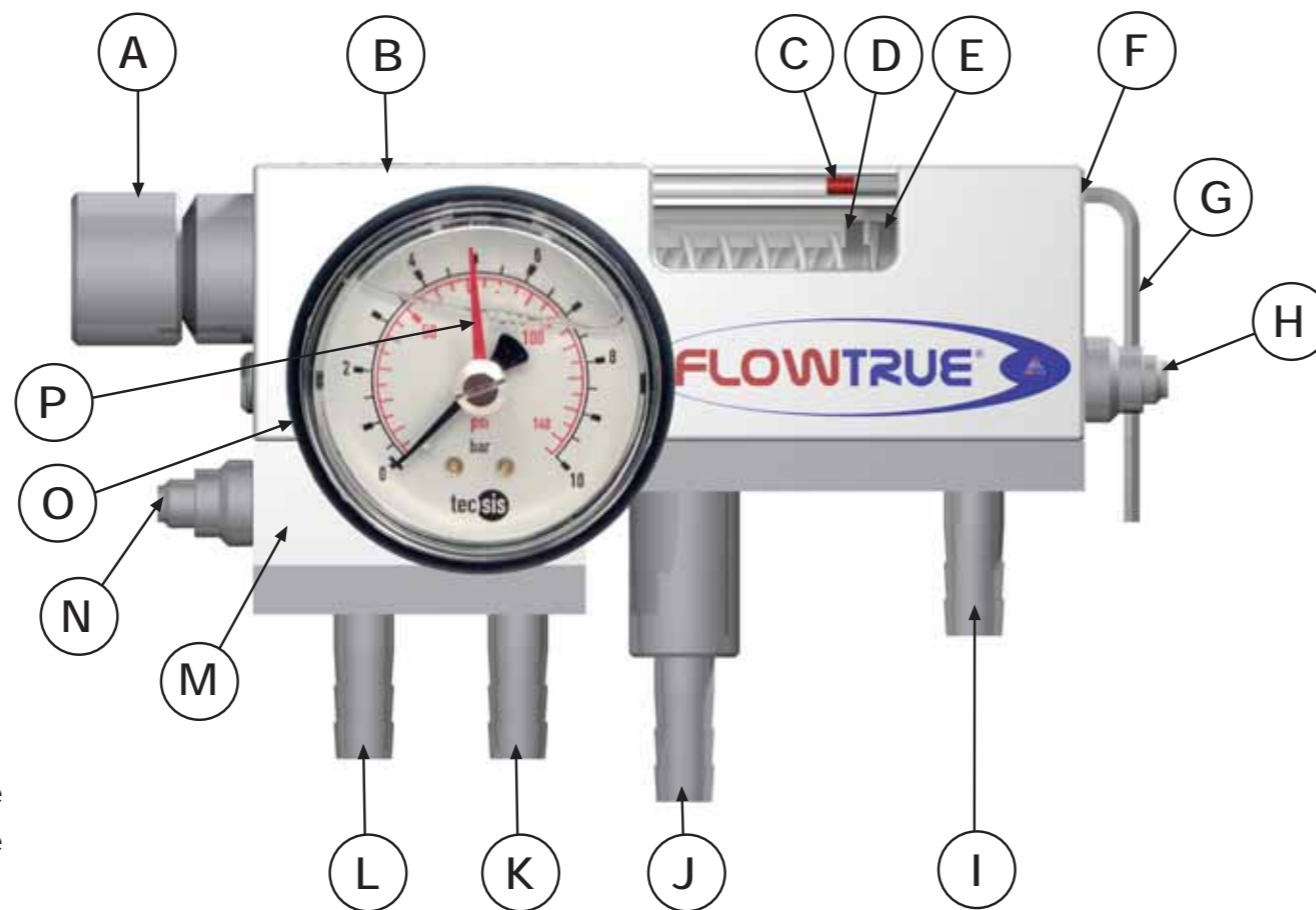

FIG.1 FLOWTRUE® Features
- 3) Connect the hoses from the plant water supply ball valve to the FLOWTRUE® (I) and from the FLOWTRUE® connection (J) to the mechanical seal.
- 4) If installing Model FTPB - XX - YYY for use with a double mechanical seal (Figure 1 & 3), there is both a backpressure valve (M) and a pressure gauge (O). The hose from the mechanical seal leading back to the FLOWTRUE® is connected to return connection (K).
- 5) Ensuring that the flow valve (H) is closed, set the red target flow indicator (C) to the desired flow rate using the 2.5mm hex key inserted in (G).
- 6) Switch on the plant water supply. Open the flow valve (H) until the white left hand ring (D) is in line with the red flow indicator (C).
- 7) If installing Model FTPB - XX - YYY for use with a double mechanical seal (Figure 1 & 3), adjust the red target pressure indicator (P) to the pressure you desire. Use allen key (G) in the back pressure control valve adjustment point (N) until the desired pressure is reached.